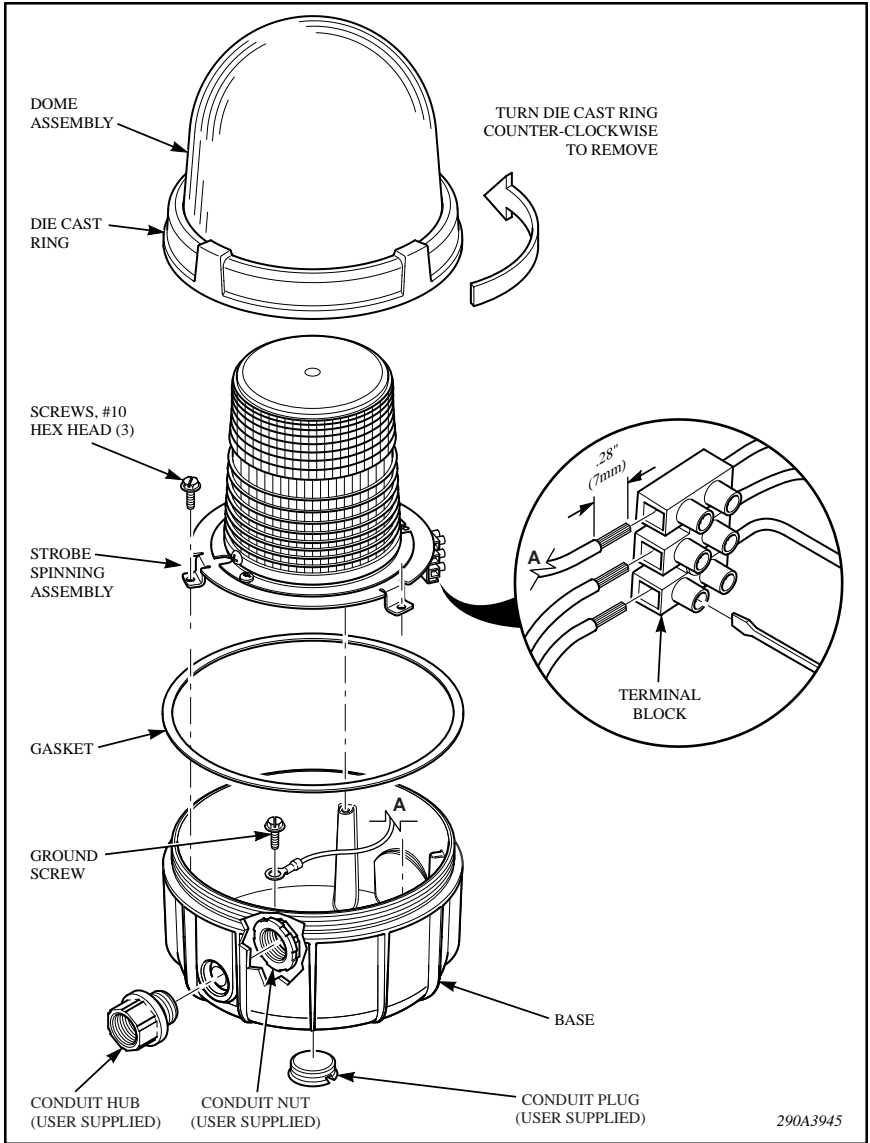

Figure 2.
D. Electrical Connections (see figure 2).